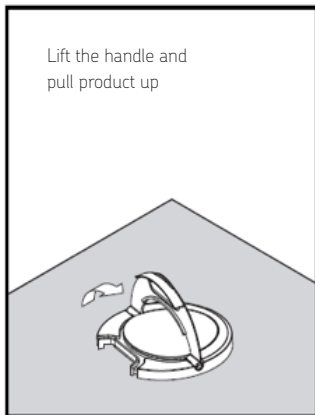

Fig. 3a
- To raise the product, gently lift the handle on the top cover. Raise until it clicks, this means it's locked in position (see Fig 3a)